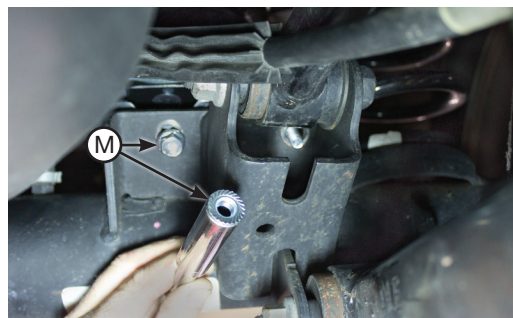

fig. E.5
4. Fasten the carriage bolts with the 3/8"-16 serrated-flange lock nuts (M), but tighten them after both nuts have been installed (Fig. E.5) on each side. It will be necessary on the outside bolt (under the control arm) to use a long socket and extension to reach in and start the nut (Figs. E.5 & E.6).